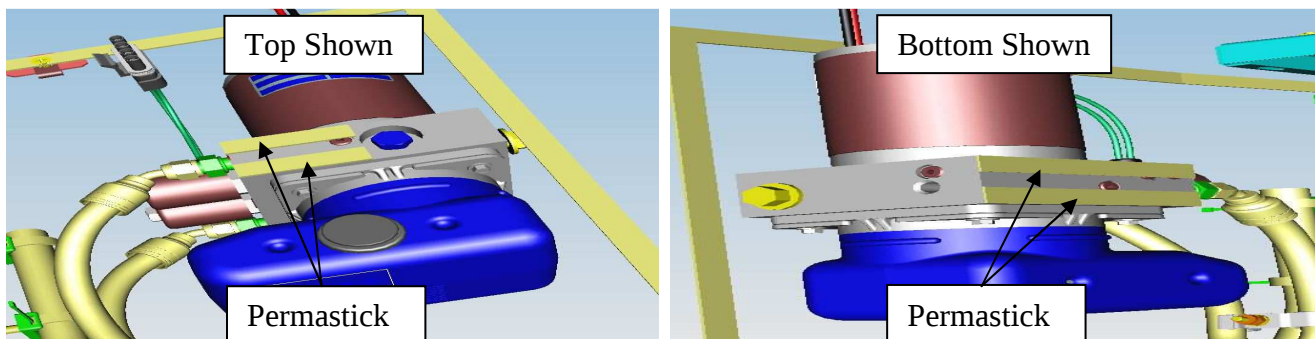

Figure 6: Powerpack with Permastick applied
- a. Apply Permastick (NF #5963353) as shown in figure 6 to the surfaces of the powerpack manifold that come in contact with the stainless steel frame.